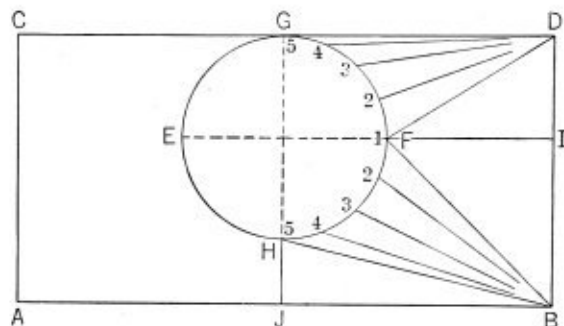
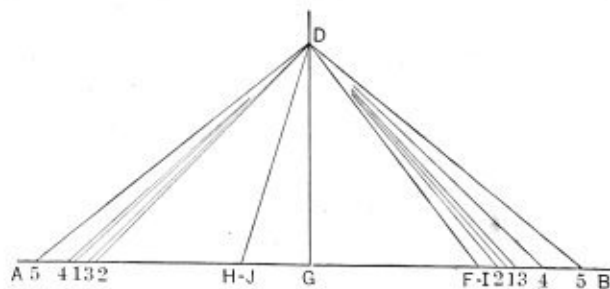
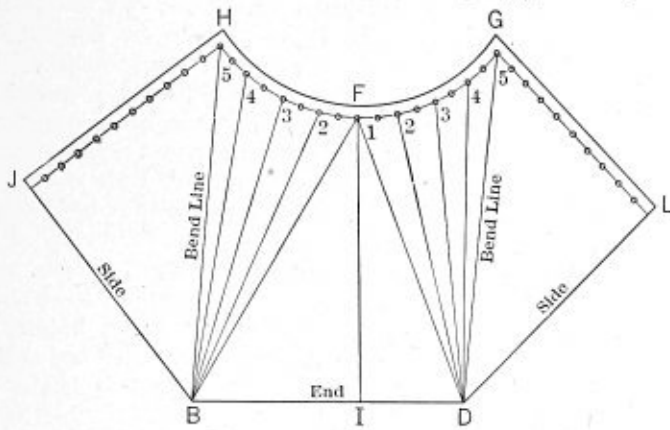
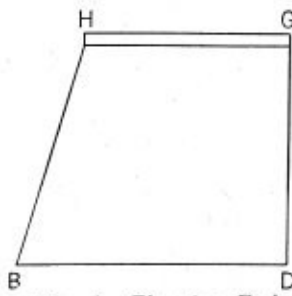

Fig. 1.—Plan
Fig. 2.—Development
Fig. 3.—Half of Pattern
Fig. 5.—Elevation End
To lay out a piece with a round top and rectangular base having a straight side—a pattern commonly called a boiler head or breeching—lay down the plan as indicated in Fig. 1, marking off points  $A, B, C, D$  and dotted lines  $E-I$  and  $J-G$
at right angles. With the intersecting point,  $O$ , as center, scribe a circle, cutting the line  $E-I$  at  $F$ . Divide the arc  $F-G$  into four equal parts; likewise arc  $F-H$ , marking the points 1, 2, 3, 4, 5 as shown. Work out the development as indicated in Fig. 2. Drawing lines  $A-B$  and  $G-D$  at right
angles, mark off lengths on the line  $G-B$ , Fig. 2, equal in length to  $F-I, D_1, D_2, D_3, D_4, D_5$ , Fig. 1, using  $G$  as center; also lengths  $H-J, B-1, B-2, B-3, B-4, B-5$  on line  $G-A$ , using  $G$  as center.
To lay out the pattern, measure off line  $B-D$  as indicated in Fig. 3. Laying off the distance of line  $D-I$ , Fig. 1, upon this line, erect a line perpendicular to  $B-D$  at this point,  $I$ . Measure off on the perpendicular, Fig. 2, the height  $G-D$ , Fig. 5. Connect this point with  $F-I, 1$ , etc. Now, taking  $D_1$ , thus found in Fig. 2, cut an arc at  $F$ , Fig.
3. With dividers set to equal spacing on the circle, Fig. 1, and using 1, Fig. 3, as a center, strike an arc. With the line  $D_2$ , Fig. 2, as a radius, and  $D$ , Fig. 3, as a center, cut an arc through point 2. Do likewise for 3, 4, 5, cutting the
arcs with the points previously found as centers. To get the end, take a line the length of line  $G-D$ , Fig. 2, as a radius, and with point 5, Fig. 3, as center, scribe an arc.
With the length of line  $G-D$ , Fig. 1, as a radius and  $D$ , Fig. 3, as center, scribe another arc. The intersection of these arcs,  $L$ , connected with point 5, will give the line for the rivet holes, allowing suitable lap.